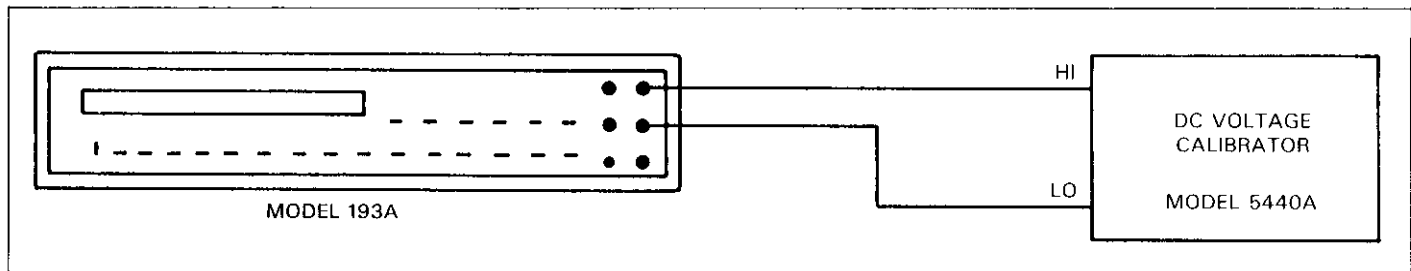

Figure 4-1. Connections for DC Volts Verification
- Connect the DC voltage calibrator to the Model 193A as shown in Figure 4-1.